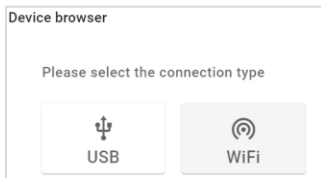

Figure 34
4. Press  and select **WiFi** (Figure 34).